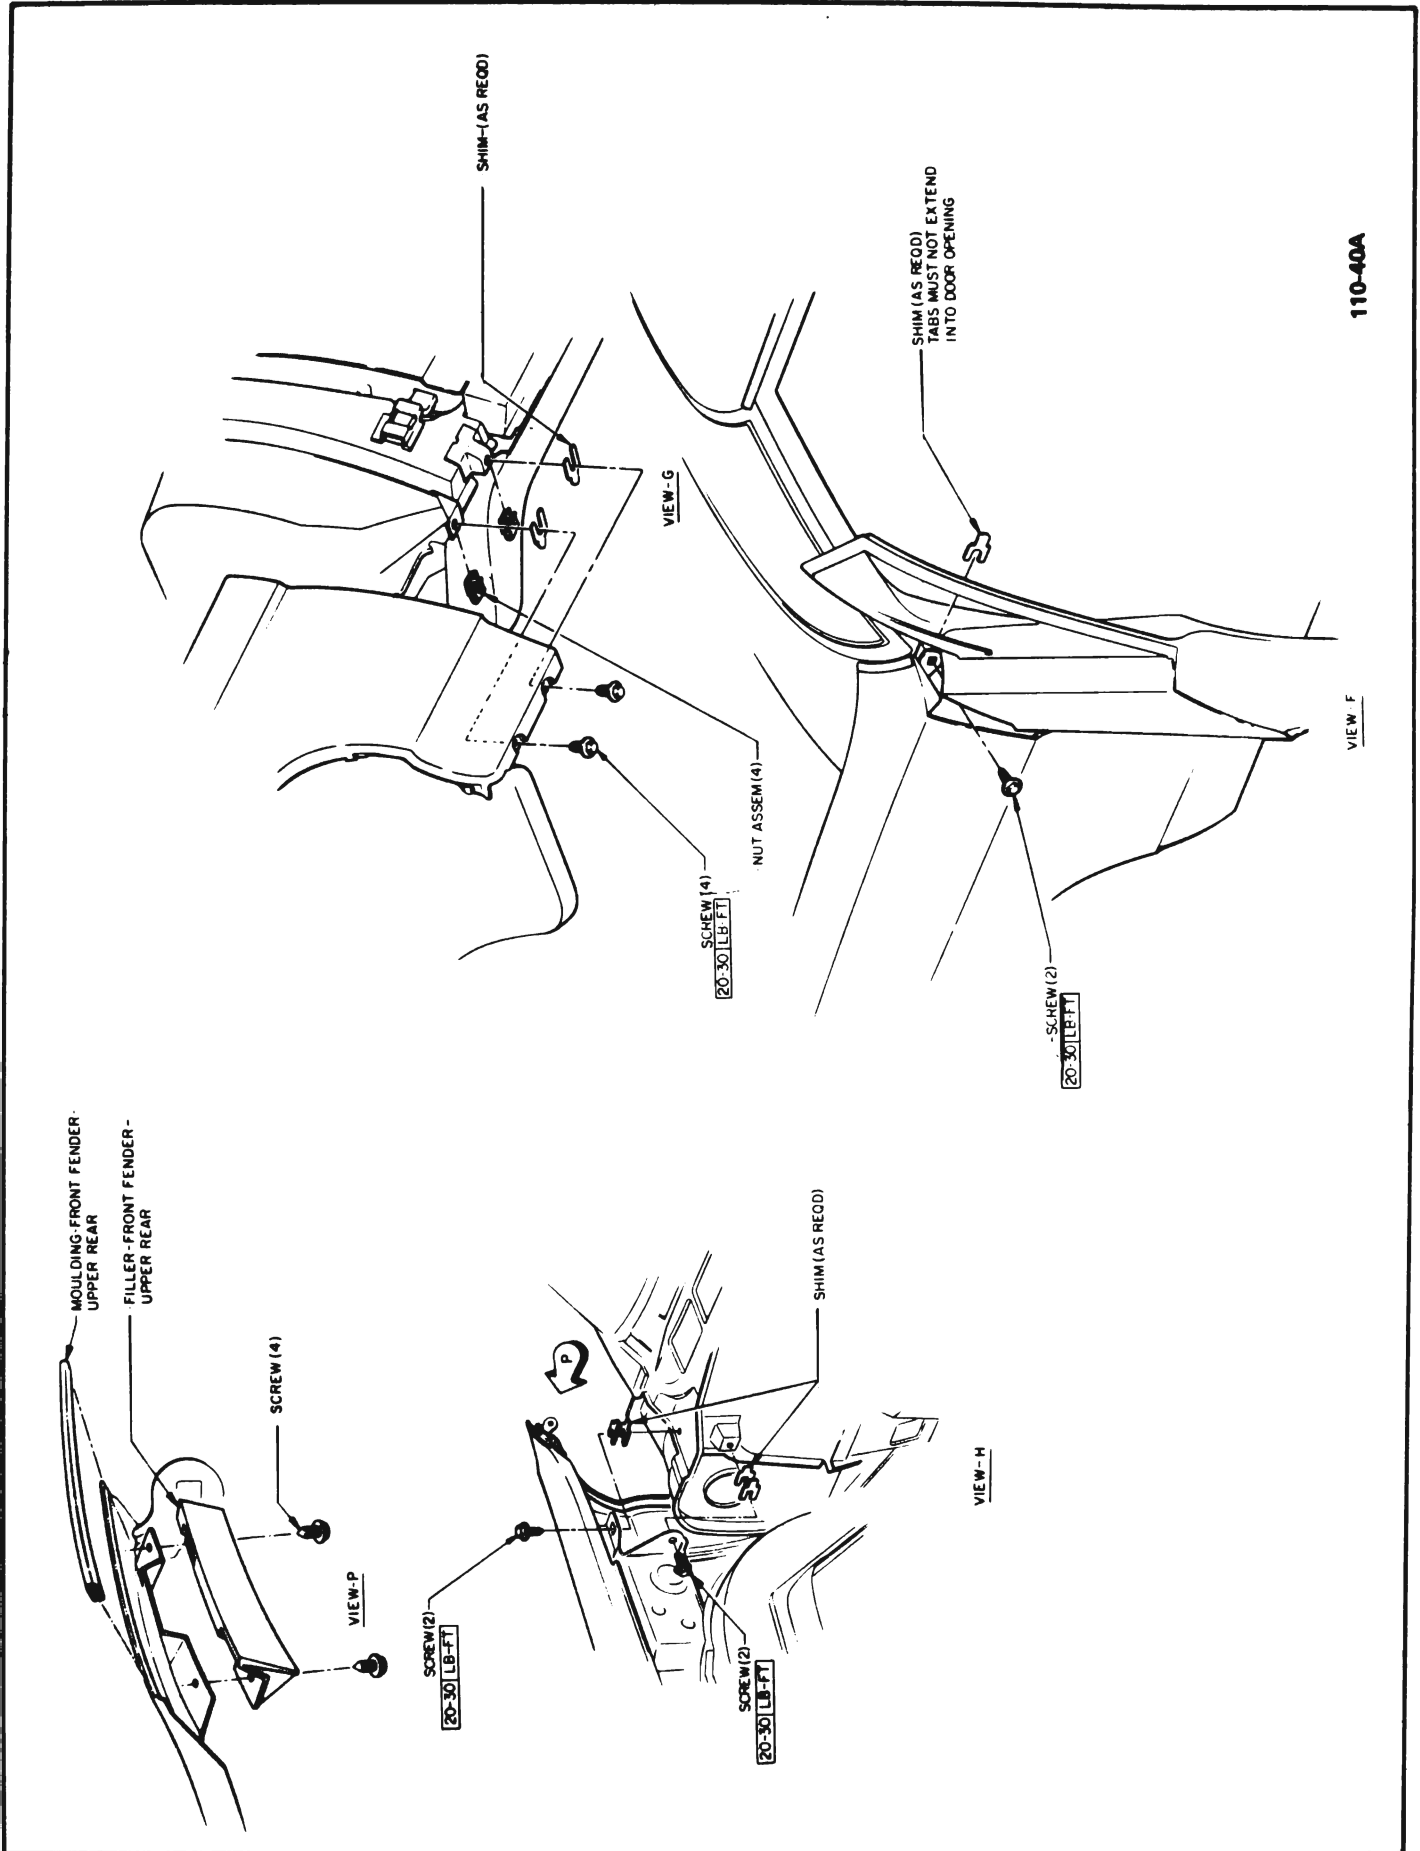

Figure 110-5 43-44000 Fender to Cowl Attachment Points
8. Remove two bolts securing upper rear portion of fender to cowl. See Figure 110-5.
rear edge of fender to rocker panel. See Figure 110-5.
11. Remove one bolt securing upper rear portion of fender to hinge pillar. See Figure 110-5.